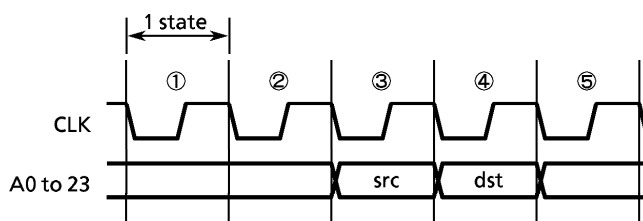

Figure 3.3.2 (1) Micro DMA Cycle Timing
Figure 3.3.2 (1) shows the micro DMA cycle for transfer destination address INC mode (the same apart from counter mode). (Condition : 0 wait built-in RAM in the transfer address area)